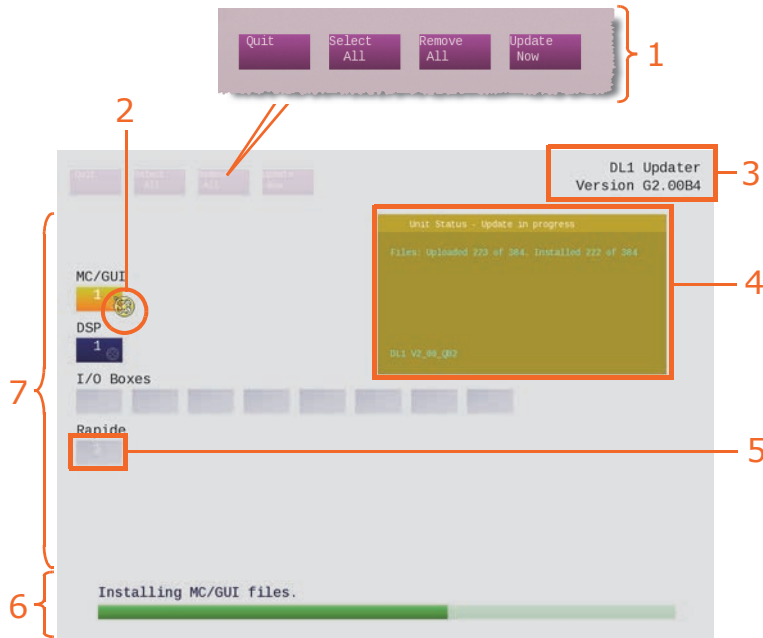

Figure 29: A typical updater display
- 8 Click **No Thank You** to start the upgrade. (If, at this point, you want to back up your shows and preferences, click **Yes Please**.) The device blocks will change colour according to their update status (see "Device blocks" on page 343). The green bar at the bottom will show the progress of the current action. A typical screen display during the update procedure is shown in Figure 29 "A typical updater display" on page 342.